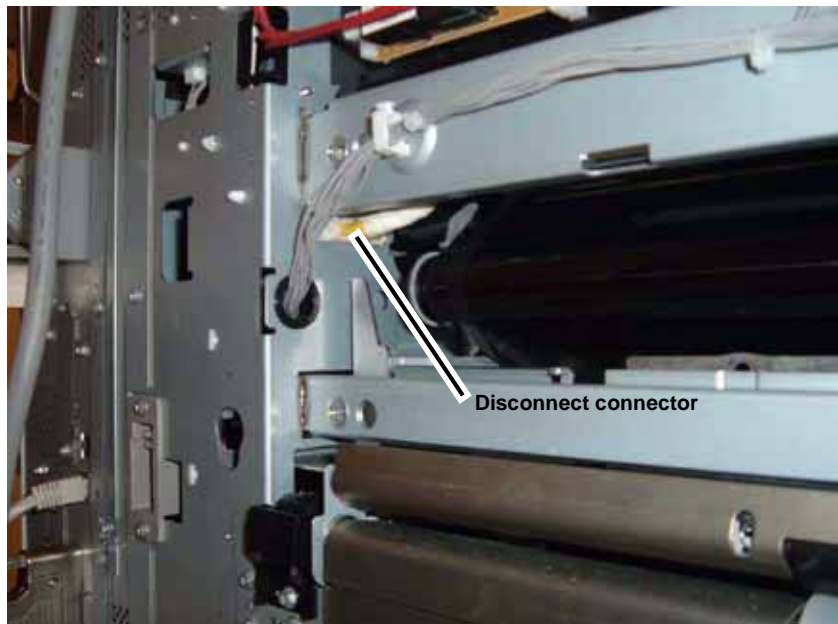

Figure 5 Disconnecting connector
10. Disconnect connector (Figure 5).